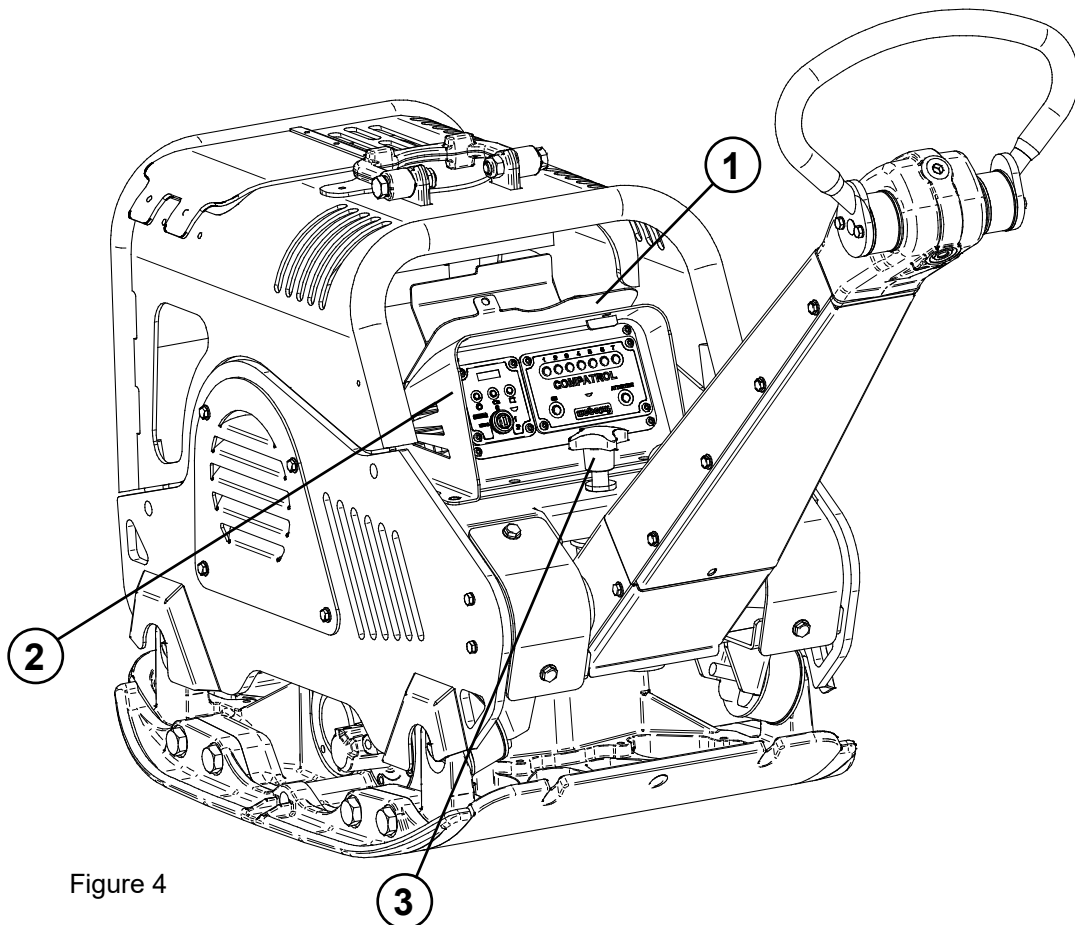

Figure 4
- ▶ Adjust the desired work height of the guide bar with the set screw (position 3, figure 4).
- ▶ Open the vandalism flap (position 1, figure 4).
- ▶ Insert the vandalism flap (1) into the designated holder on the valve box (position 2, figure 4).